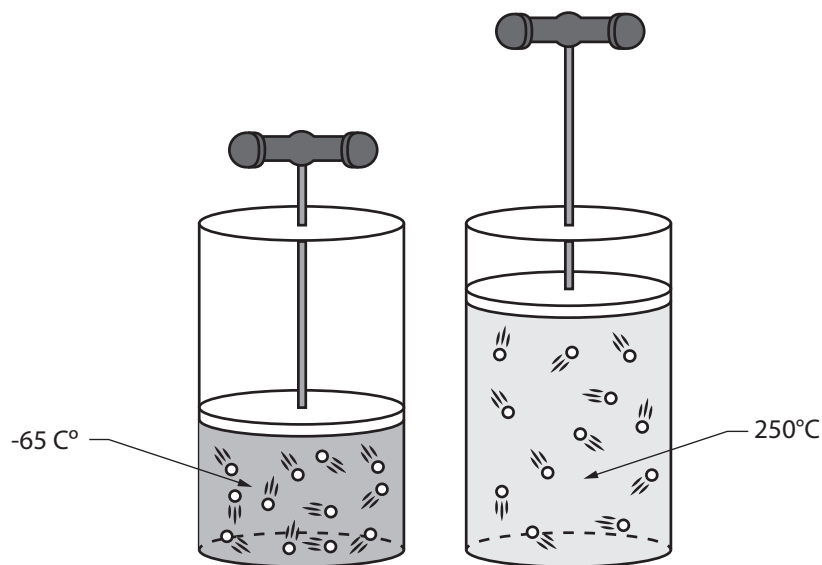

Figure 45 — Charles' Law 2, showing increase in volume for increased temperature
*Under a fixed pressure, the volume of a gas is proportional to its absolute temperature* (Figure 45).